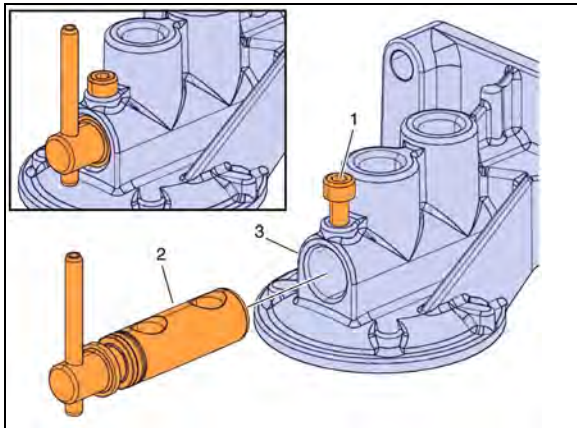

FIGURE 10: INSERTING THE SPINDLE
11. Reinsert the spindle (2) into the coolant filter housing (3) and tighten the M5 hex socket screw (1) (Figure 10).